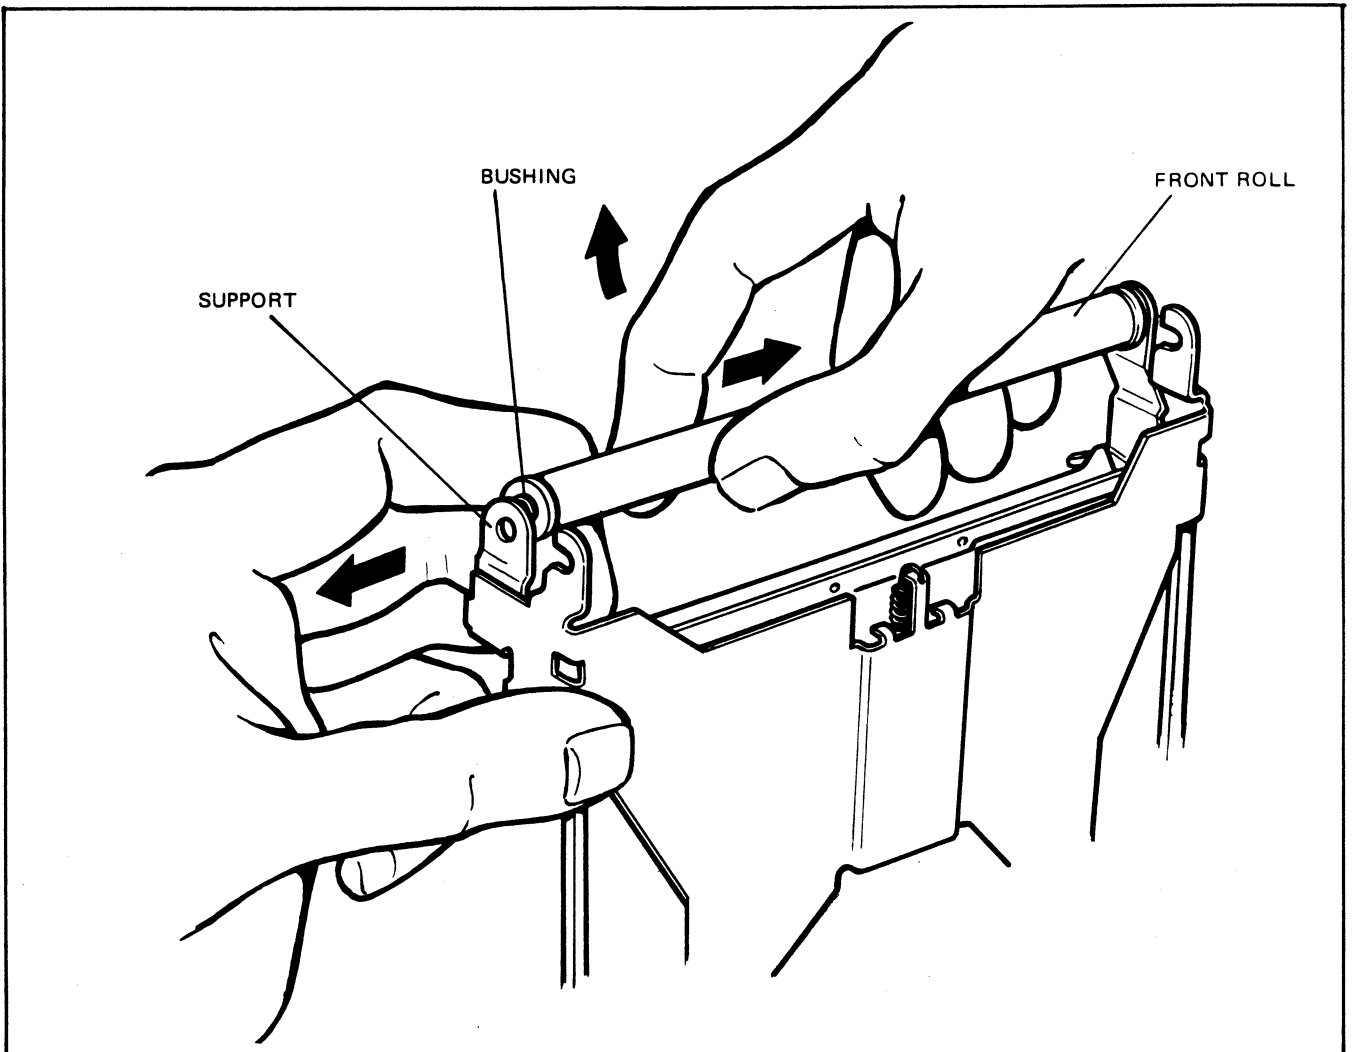

FIG. 5.6 REMOVING THE FRONT ROLL
2. Remove the front roll (Figure 5-6): Grip the roll firmly and pull it against one of the supports. Apply a force in the opposite direction against the other support until the roll and bushing disengage from the support.